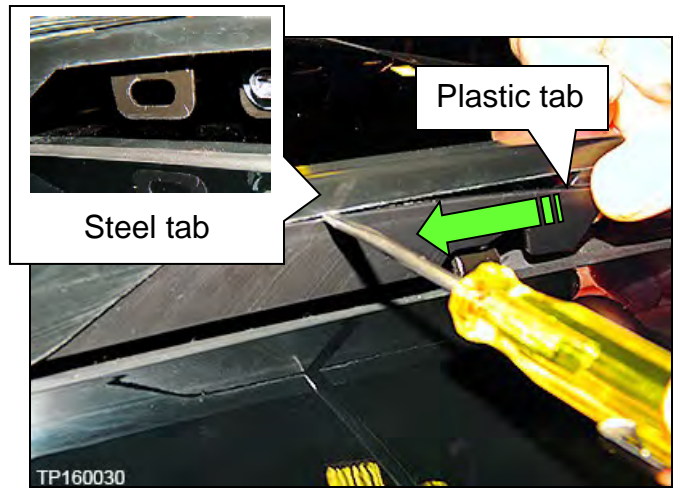

Figure 87
- b. Insert a pocket screwdriver between the moonroof bolt finisher and the moonroof in the location shown in Figure 87.